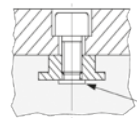

Figure 3
- Fig. 3: Correct bolt connection, bolt end must not touch the base of the grinding wheel